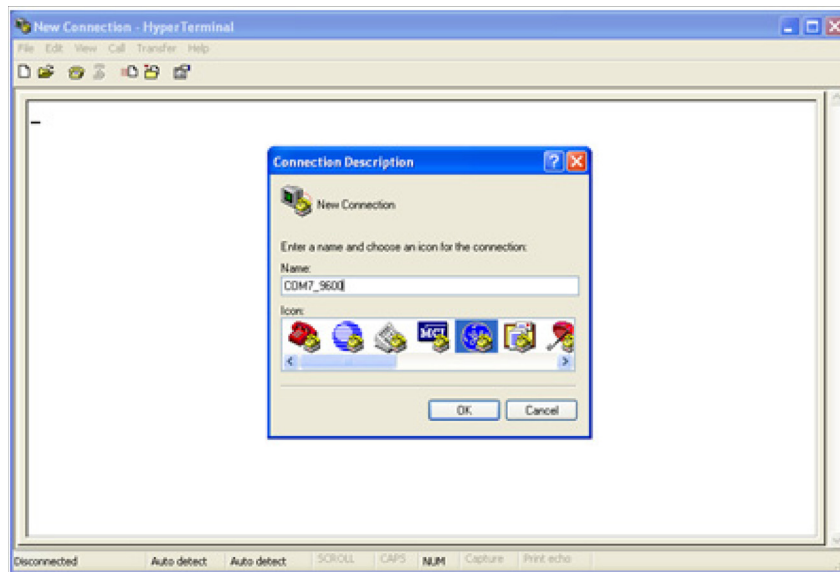

Figure 20-7. Connection Name
4. Enter the name of the connection and click **OK**. as shown in Figure 20-7.